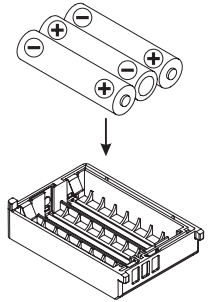

FIGURE 1
- ❑ Install the three “AAA” size Alkaline Batteries into the **FBA-44** Battery Case with the Negative (–) side of the batteries touching the spring connections inside the **FBA-44** Battery Case (Figure 1).